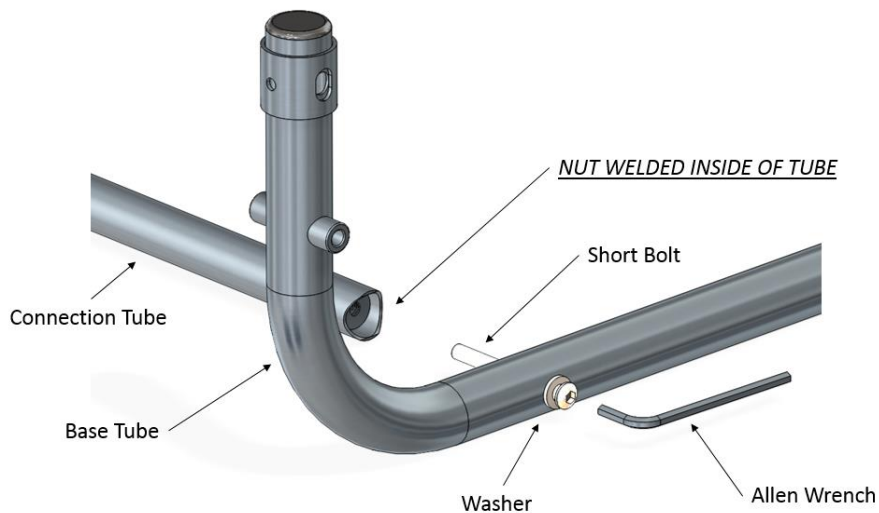
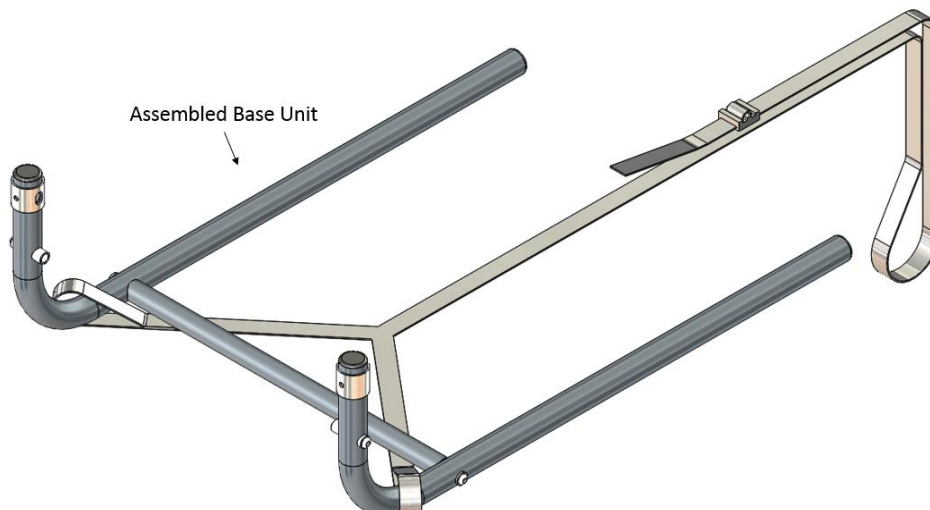

FIGURE 2
FIGURE 3
2. Use the Allen Head Wrench to attach the CONNECTION TUBE to the BASE TUBES using the SHORT BOLTS and WASHERS as shown in Figure 2 and Figure 3.
3. Slide loops of SAFETY STRAP over BASE TUBES as shown in Figure 3.